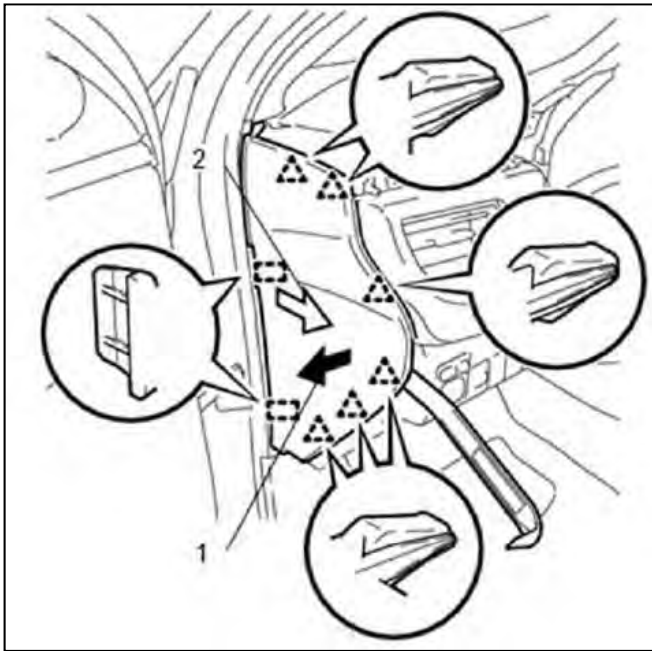

Figure 5
5. Using a molding remover, disengage the 6 clips in the direction indicated by the arrow (1) as shown in the illustration. Pull the instrument side panel LH in the direction indicated by the arrow (2) as shown in the illustration to disengage the 2 guides and remove the instrument side panel LH. See figure 5.